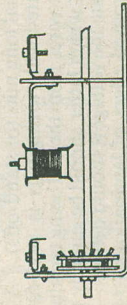

FIG. 7. CROSS SECTION THROUGH ONE COMPARTMENT
- (1) The grid rotor of the wave change switch to the capacitor,
- (2) The anode rotor of the switch to the anode of the respective valve,
- (3) The connection to the HT line,
- (4) The connection to the AVC line. (Fig. 7)